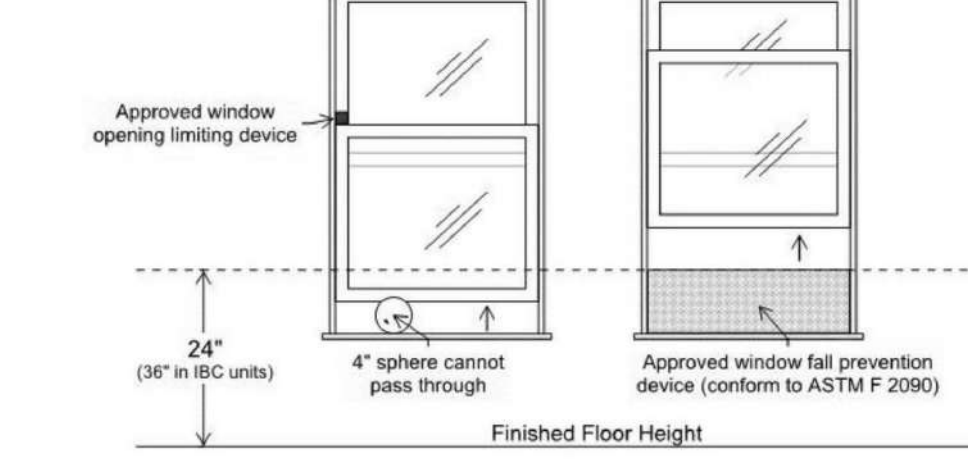

Figure 2: Window fall protection
- Operable windows that are provided with opening control devices that comply with ASTM F 2090 (see Figure 2). (Note: When installed on required emergency egress windows, these devices must not reduce the net clear opening to less than the minimum required size or dimensions; see Tip Sheet 10 for more information.)
- In dwelling units regulated by the IRC where the sill height of an operable window above exterior finished grade is more than 75 feet, provide window fall prevention devices complying with ASTM F 2090 (see Figure 2).